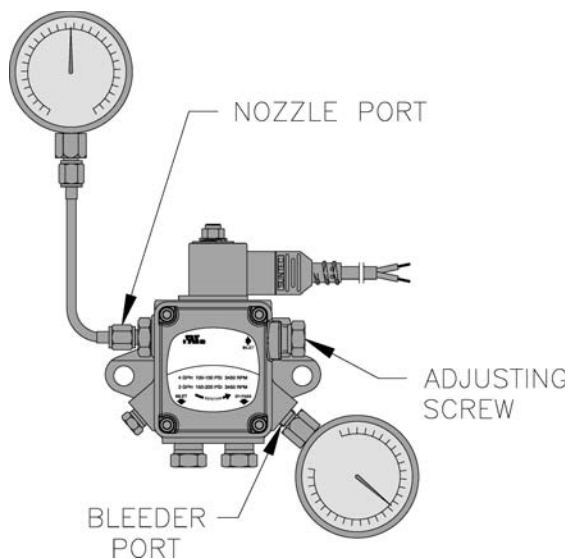

Figure 26: Adjusting Fuel Pump Pressure
- a. When checking a fuel unit's operating pressure, a reliable pressure gauge may be installed in either the bleeder port or the nozzle port. See Figure 26.